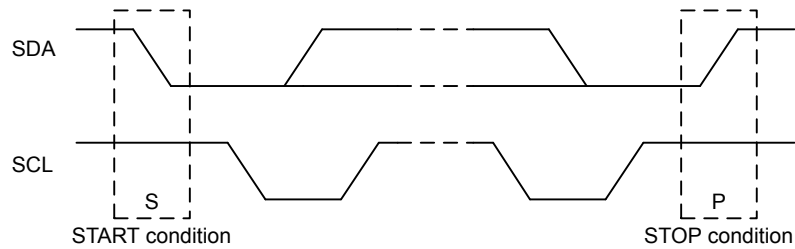

Figure 21.4. I²C START and STOP Conditions
START and STOP conditions are used to initiate and stop transactions on the I²C-bus. All transactions on the bus begin with a START condition (S) and end with a STOP condition (P). As shown in Figure 21.4 I²C START and STOP Conditions on page 670, a START condition is generated by pulling the SDA line low while SCL is high, and a STOP condition is generated by pulling the SDA line high while SCL is high.